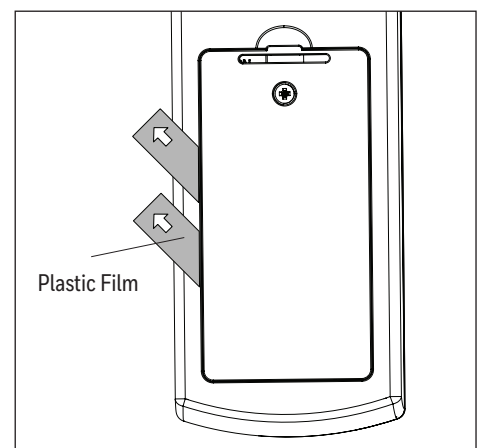

Figure 5.9
- Batteries were preinstalled in the battery compartment of the remote. Pull the plastic film in the direction of the arrow to remove, which will activate the batteries. Press the FAN POWER button to ensure the LED indicator illuminates and the fan turns on (Figure 5.9).